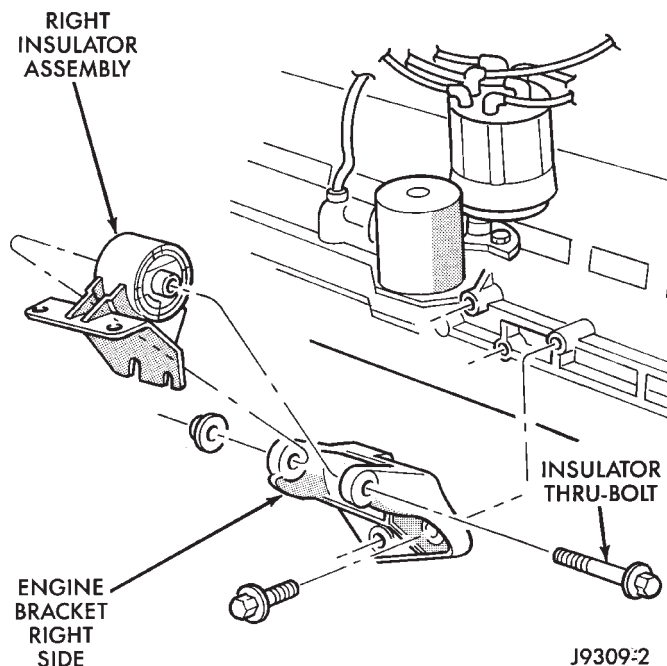
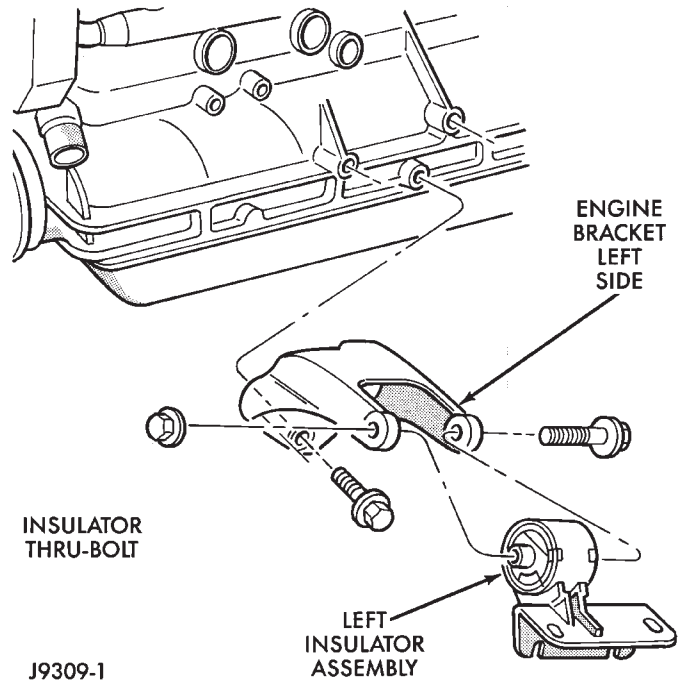

Fig. 24 Front Engine Mount—Right Side
Fig. 25 Front Engine Mount—Left Side
- (1) Disconnect the negative cable from the battery.
- (2) Support the engine.
- (3) Raise the vehicle.
- (4) Remove the insulator assembly-to-lower front sill bolts (Fig. 24) (Fig. 25).
- (5) Raise the engine slightly.
- (6) Remove the thru-bolt nut and thru-bolt (Fig. 24) (Fig. 25). Remove the insulator.
- (7) If required, remove the engine bracket from the block (Fig. 24) (Fig. 25).
- (1) If removed, install the engine bracket to the block (Fig. 24) (Fig. 25). Tighten the bolts to 61 N·m (45 ft. lbs.) torque.
- (2) Install the insulator assembly to the lower front sill. Tighten the bolts to 65 N·m (48 ft. lbs.) torque.
- (3) With the engine insulator assembly and engine bracket in position, install the thru-bolt and nut (Fig. 24) (Fig. 25). Tighten the thru-bolt nut to 121 N·m (89 ft. lbs.) torque.
- (4) Lower the vehicle.
- (5) Remove the engine support.
- (6) Connect the negative cable to the battery.